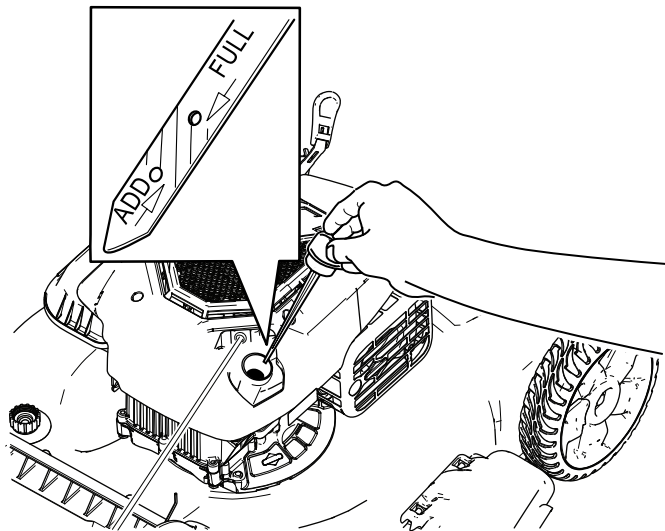

Figure 12
2. Remove the dipstick, wipe the dipstick end with a clean cloth, and insert it into the oil-fill tube (Figure 12).
3. Remove the dipstick and read the oil level on the dipstick end (Figure 12).